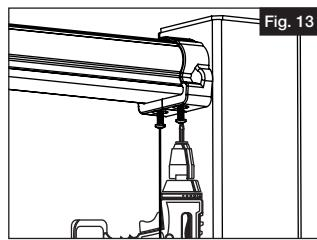

Fig. 13
- c. While tightly squeezing the bracket cover closed, pre-drill using a  $\frac{5}{32}$ " drill bit through the two holes underneath. Then, drive two #10 x 1 $\frac{1}{4}$ " square drive screws through the cover, metal bracket and into the top rail (Fig. 13).